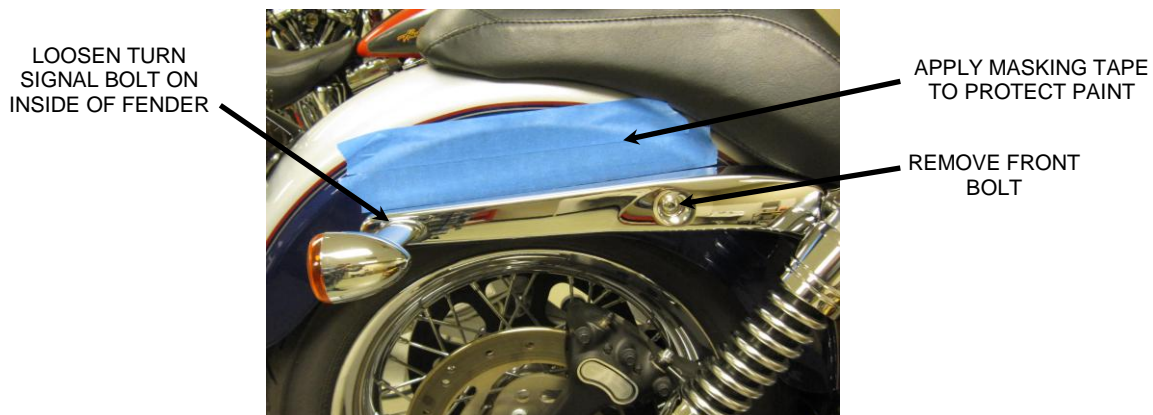

FIGURE 1
2. Apply masking tape to the fenders above the fender rail to protect the paint during installation. See **FIGURE 1**.
3. Remove the front bolt from the right side fender rail and discard. **NOTE:** Remove one side only so the fender does not fall resulting in possible scratches or damage to the fender or paint. See **FIGURE 1**.
4. Loosen the rear bolt securing the fender and rear turn signal from the inside of the fender until there is enough space to insert the mount bracket. The rear hole in the mount bracket is slotted so it can slide over the rear bolt so it does not need to be removed completely. See **FIGURE 1**.